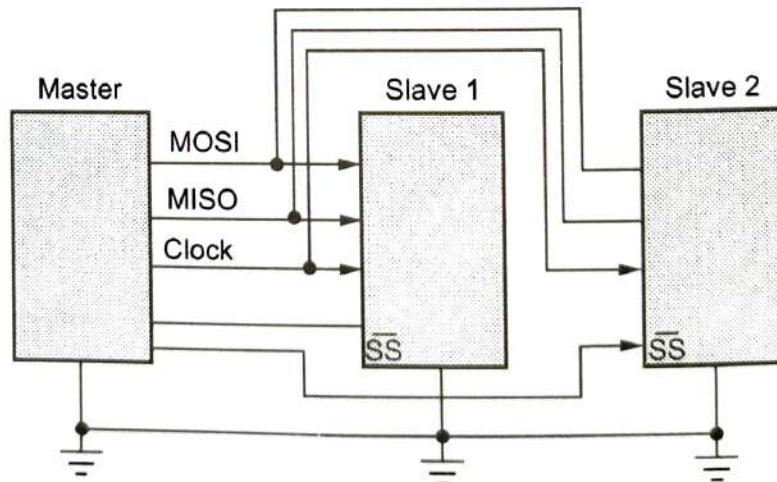

Fig. 6.3.2 : Multiple slave interface
- For SPI, there are Serial Clocks (SCLK), Chip Select lines (CS), Serial Data In (SDI) and Serial Data Out(SDO). There is only one master, the number of slaves depends on the number of chip select lines of the master.
- Fig. 6.3.2 master with multiple slave interface.